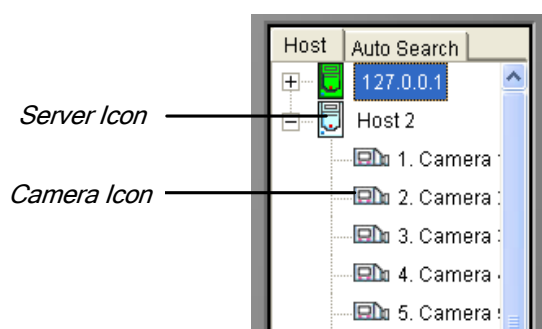

Figure 6-30 The Host Server Window
5. Alternatively, you can click and drag the created camera channel from the Host Server window (Figure 6-30) to each **Edit** tab.